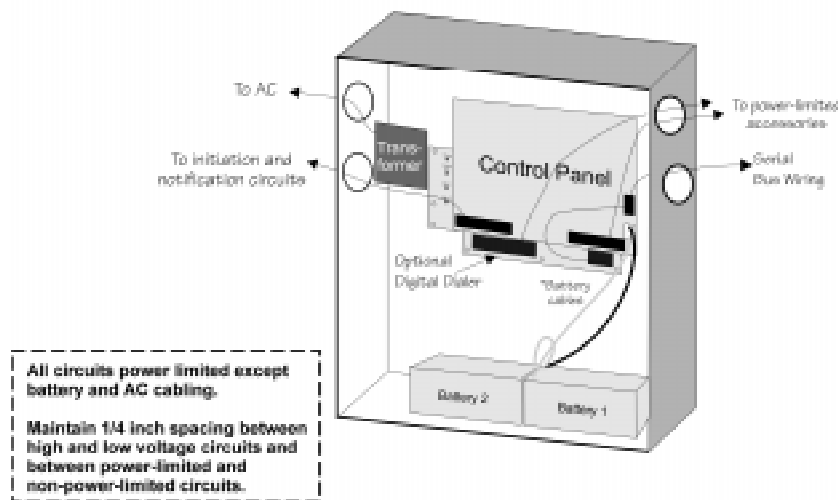

Figure 3-4 Wire Routing Example
- Route the wiring within the cabinet around the perimeter of the cabinet. It should not cross the printed circuit board where it could induce noise into the sensitive microelectronics or pick up unwanted RF noise from the high speed circuits. See Figure 3-4 for an example.